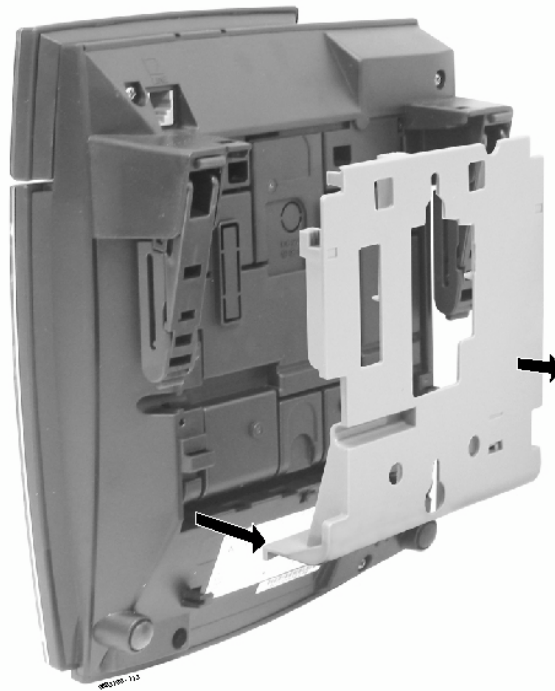

Figure 4-44: REMOVING THE WALL-MOUNT BRACKET
Installing the Wall-Mount Handset Bracket (Figure 4-44 - Figure 4-46)
1. Remove the integrated wall bracket from the bottom of the phone. Refer to Figure 4-44.
1. After removing the integrated wall bracket from the bottom of the phone. (Figure 4-44), attach the wall bracket to the wall using three screws (in the positions indicated below) to the